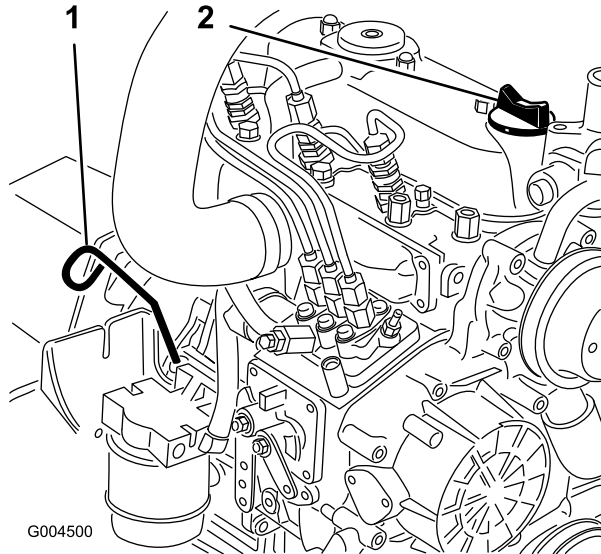

Figure 59
2. Remove the dipstick (Figure 59), wipe it clean, and install the dipstick. Remove the dipstick and check the oil level.
3. If the oil level is below the Full mark, remove the fill cap (Figure 59) and add oil until the level reaches the Full mark on the dipstick.